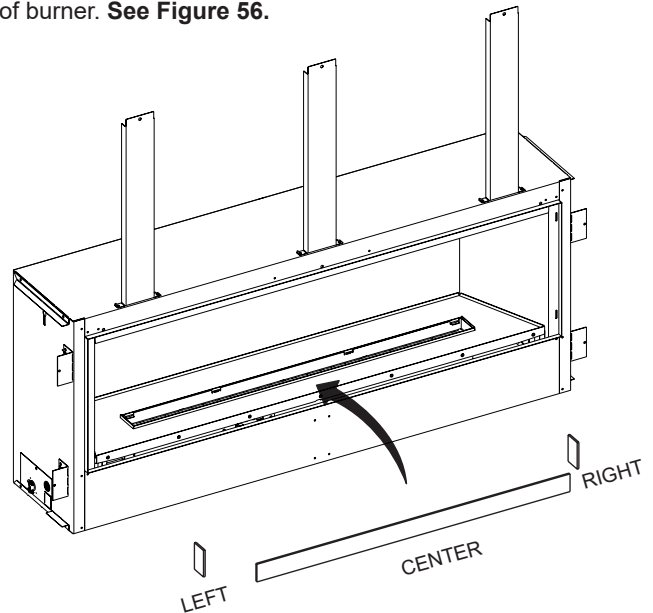

Figure 56
5. Retrieve the 3 glass panels and install on front and both sides of burner. See **Figure 56**.